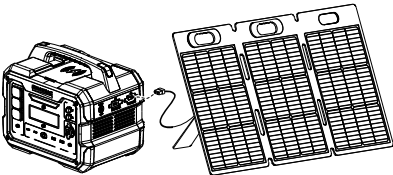

Figure 1-2. Connect Power Station
3. See Figure 1-2. Connect the output cable to the Power Station.